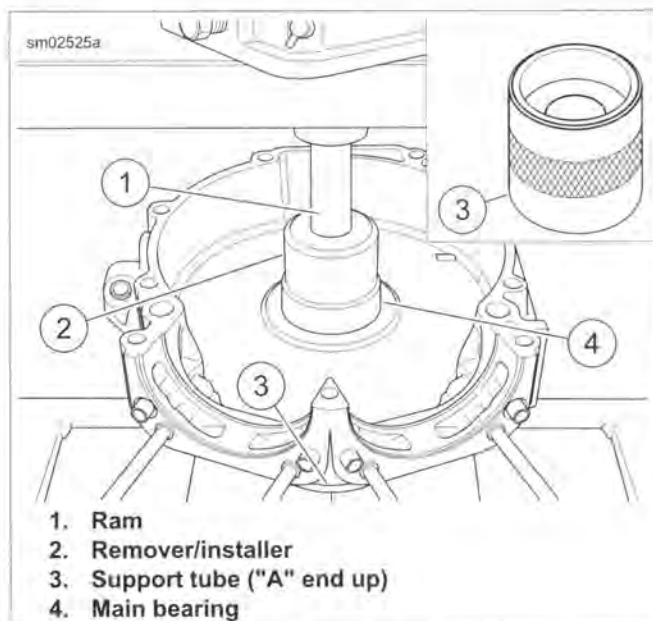

Figure 3-120. Left Main Bearing Installation
2. See Figure 3-120. Place a thin film of clean engine oil on outer diameter of **new** main bearing (4).
3. Place support tube (3) on hydraulic press table with the end marked "A" up.
6. Slide remover/installer (2) through bearing into support tube.